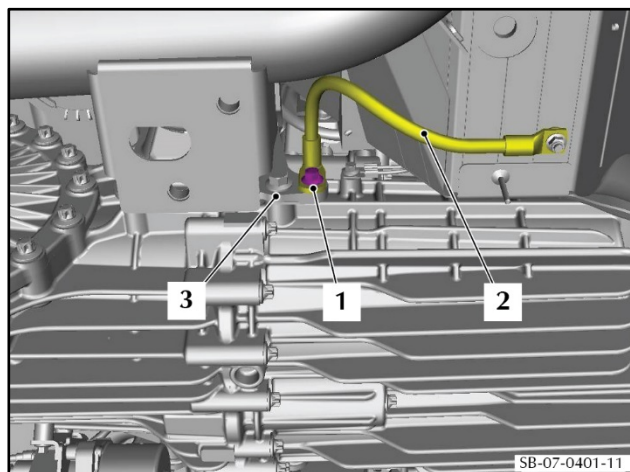

Figure 14
22. Remove the bolt (1) that attaches the ground cable (2) to the transmission mount bracket (3) and move the ground cable (2) away (refer to Figure 14).